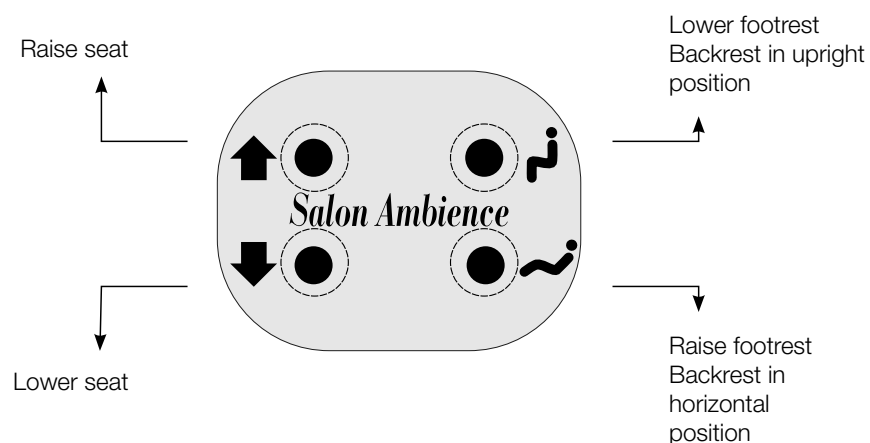

fig.2 Chair and footrest lowering
- 8\_ Lower the chair and the footrest as low as possible, using the appropriate push-button panel key as shown in figure 2. Each key has to be held down to command the actuator motion to make the downward movement begin. To stop the downward movement, release the command key.
- 11\_ Lift the chair using the appropriate push-button panel keys as shown in figure 2, so that the operator's arms are free and he can take a natural position while washing hair.